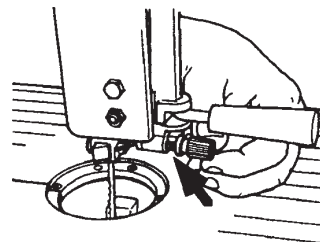
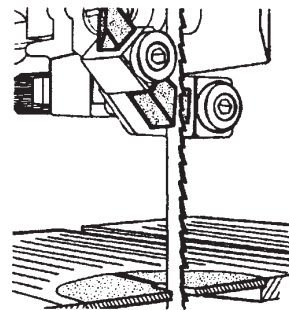

Figure A-25
Figure A-27
1. Turn the blade guide adjusting knobs, shown in Figs. A-25 and A-26, until the front edges of the guide blocks are just short of the bottom of the gullets between the teeth, as illustrated in Fig. A-27. If the guide blocks extend beyond the gullets, the teeth will nick the sides of the blocks, wearing away the blade guides and dulling the blade.